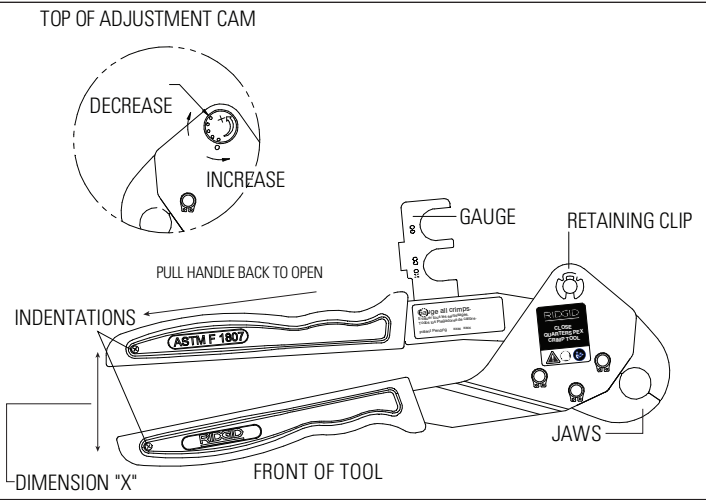

Figure 1 – ASTM F1807 Close Quarters Manual PEX Crimp Tool
2. Measure the distance between centers of the indentations at the end of handles (see Figure 1 – “Dimension X”). If the measured distance is within the allowable dimensions (X) shown in the chart below, the adjustment is correct. If not, the tool requires adjustment.